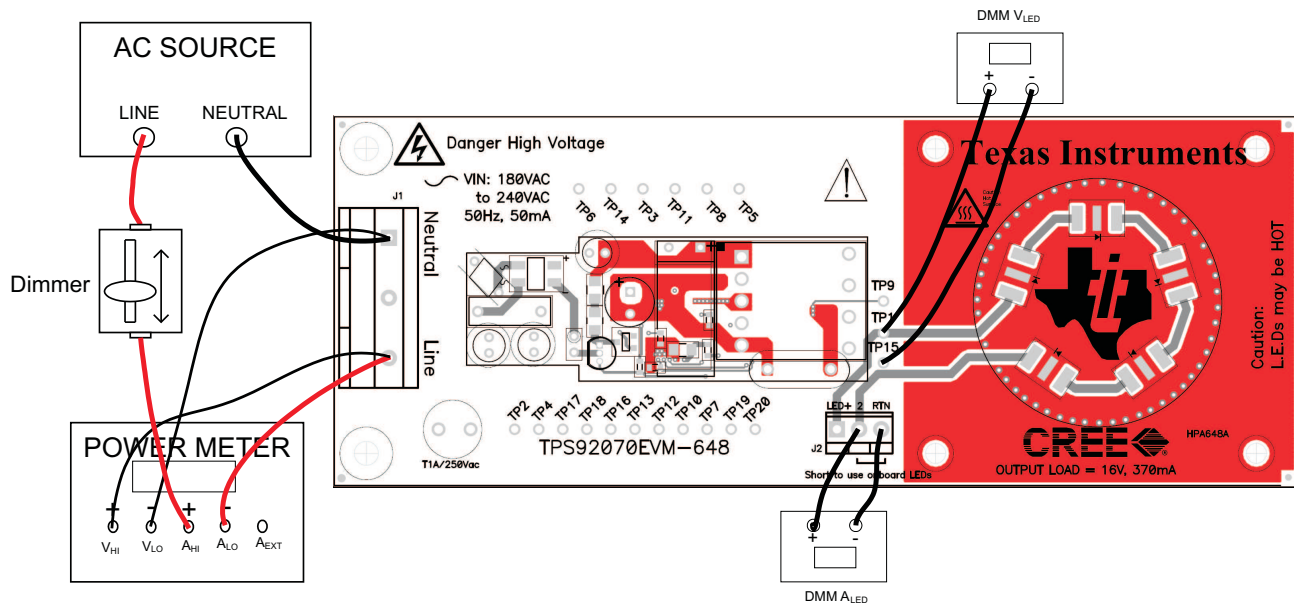

Figure 2. TPS92070EVM-648 Recommended Test Set Up
**Voltage Source:** The input voltage source shall be an isolated variable AC source capable of supplying between 180 VAC and 265 VAC at no less than 10W and connected as shown in Figure 2. (example: Hewlett Packard 6813B AC Power Source)